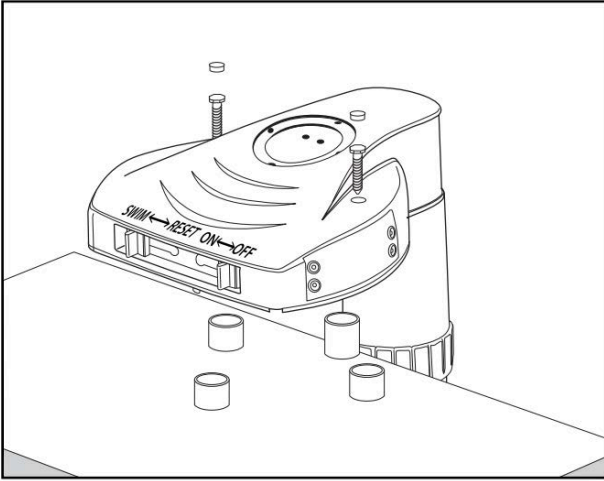

Figure 1
STEP 1: Test fit alarm in location determined above. As shown in **Figure 1**, the alarm sensor pipe throat should be in the water and the mounting area level and flat. The alarm base should easily snap into the bottom of the main alarm body and allow the sensor throat to extend directly into the pool at a 90° angle.